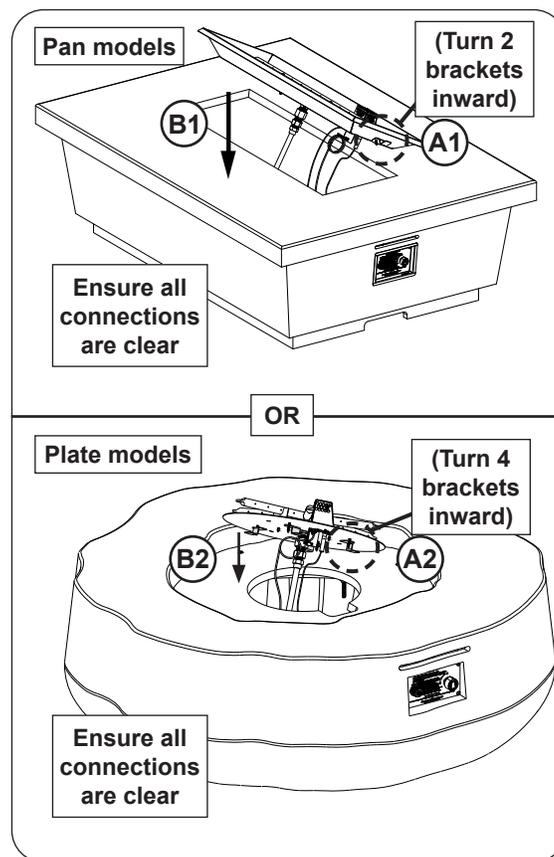

Fig. 40-2 Insert burner assembly
1. Ensure that the 2-4 burner brackets are turned inward, then insert the burner assembly (see Fig. 40-2, A-B).